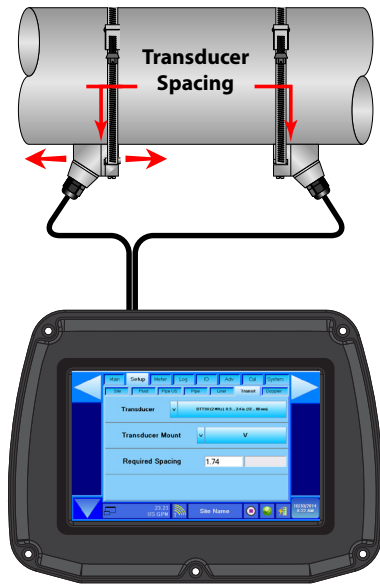

Figure 21: Transducer positioning
2. Using the alignment marks, place the downstream transducer on the pipe at the calculated transducer spacing. See *Figure 21 on page 24*. Apply firm hand pressure. If signal strength is greater than 10%, secure the transducer at this location. If the signal strength is not greater than 10%, using firm hand pressure, slowly move the transducer both towards and away from the upstream transducer while observing signal strength.